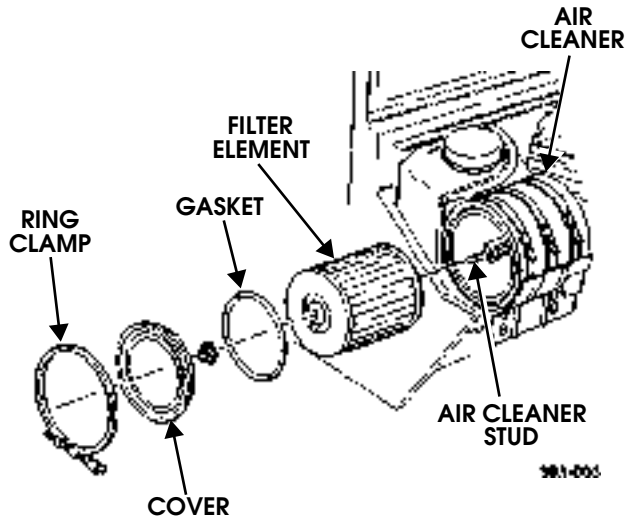

Figure 3-24: Air Cleaner Filter Element Removal/Installation
1. Remove ring clamp, cover, and gasket from air cleaner (Figure 3-24).
1. Slide filter element onto air cleaner stud and install nut and washer. Tighten nut and washer to 18-35 lb-in. (2-4 N•m) (Figure 3-24).